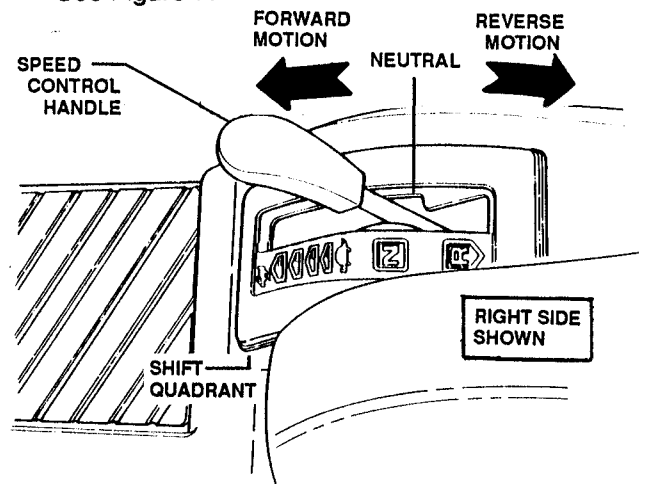

FIGURE 7
2. Slowly shift SPEED CONTROL HANDLE forward for forward motion or to the rear for reverse motion. See Figure 7.